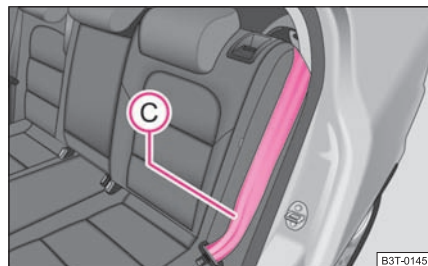

Fig. 69 Lock the seat backrest
- Place the rear lateral seat belt **(C)** behind the edge of the side trim panel ⇒ fig. 69.